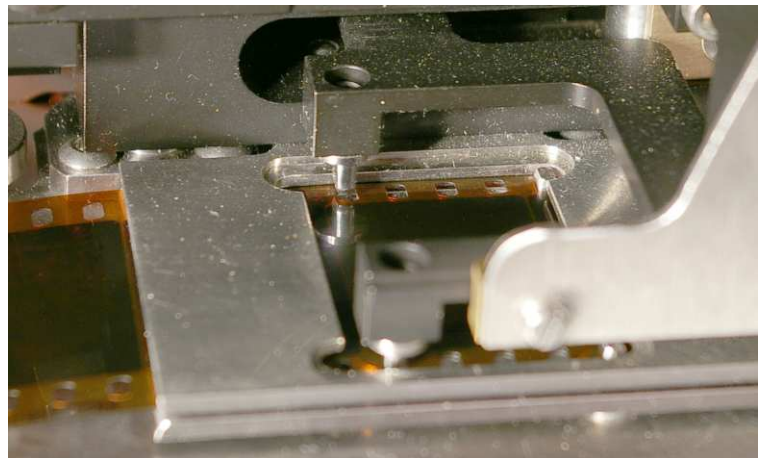

Fig 41 Shuttle pins over film
2. Raise the gate stripper plate up off the fixed register pins by pressing . *Sometimes you need to slightly rotate the motor drive to free up the plate. See Fig 41 and 43*